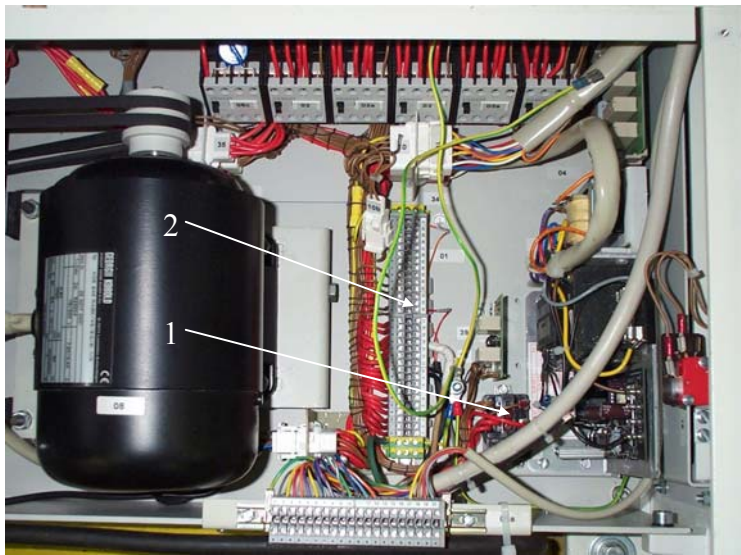
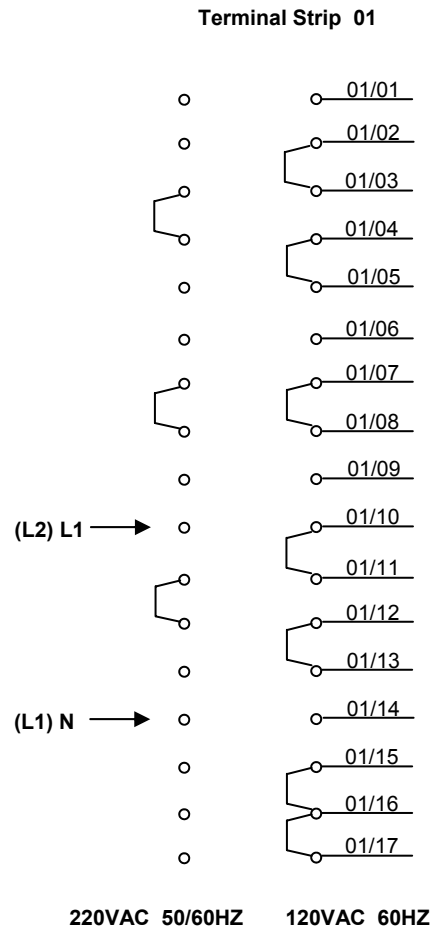

Fig. 1
Fig. 2
2. If needed replace Klixon Relay (Fig. 1, Item 1),
3. Locate Terminal Strip 01 (Fig. 1 Item 2) and install jumpers as shown (Fig. 2).